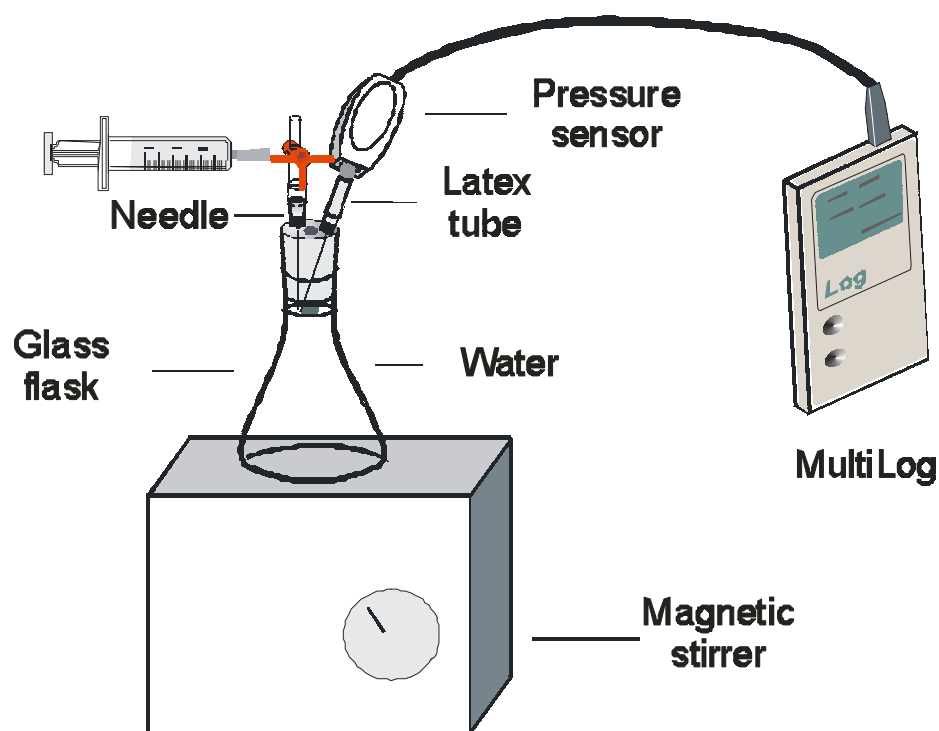

figure 1
3. Assemble the equipment as illustrated in figure 1 below.